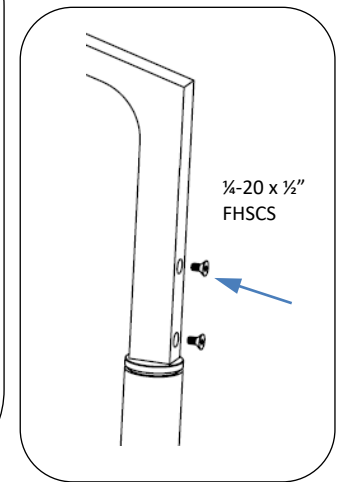

Fig. 8 – Install screws to secure arm
15. Carefully slide lighted arm over the bracket at the top of the round pole. Align two holes in back of arm. Secure with (2) 1/4-20 x 1/2" flat head socket cap screws, see Fig. 8.